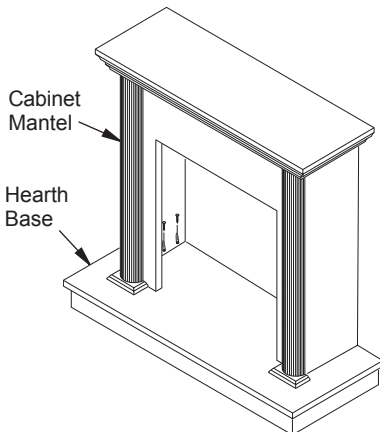

Figure 12 - Installing Cabinet Mantel onto Hearth Base
5. Center cabinet mantel on hearth base (see Figure 12). Make sure mantel is flush against wall and centered left to right on base.